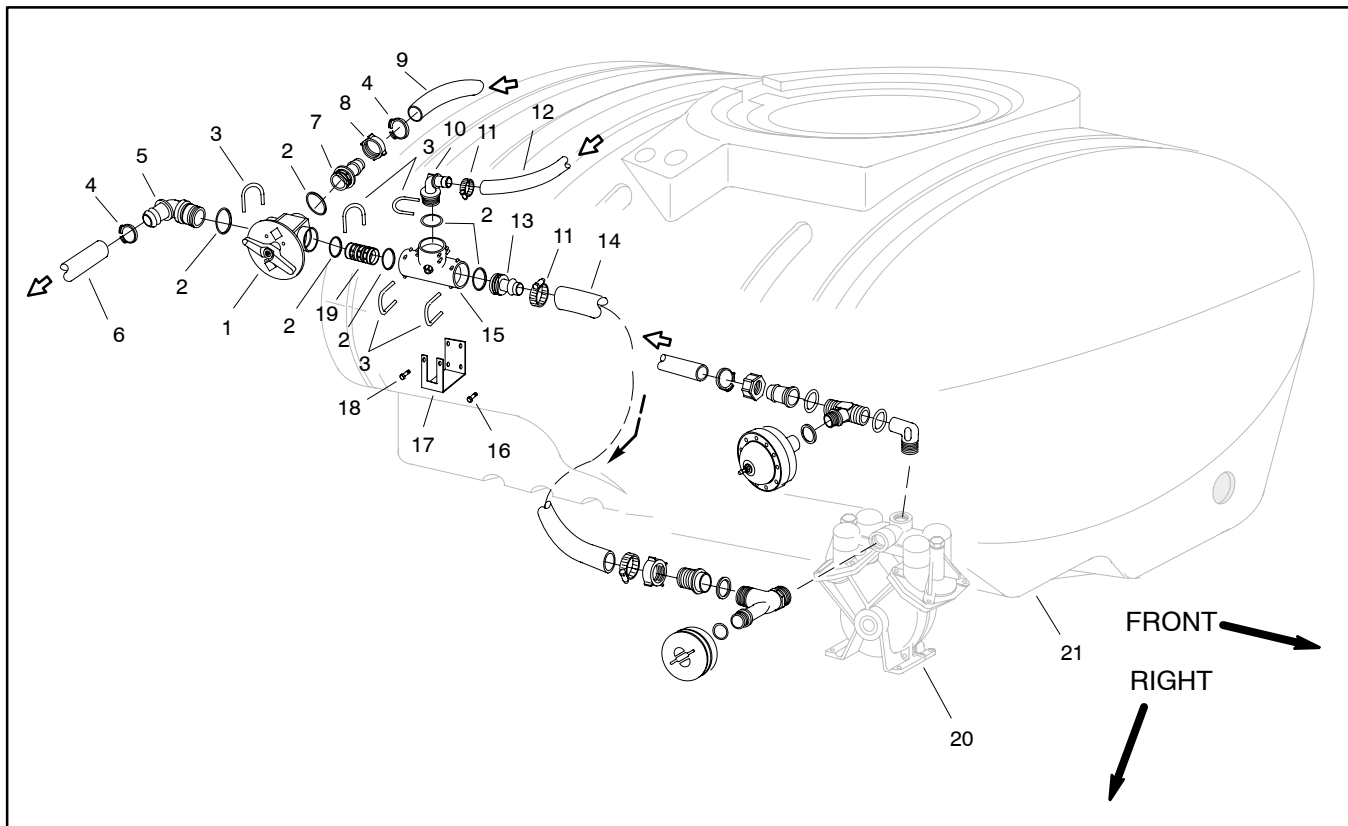

Figure 13
Removal (Fig. 13)
3. Remove agitation control valve using Figures 13 and 14 as guides.
Installation (Fig. 13)
2. Install agitation valve using Figures 13 and 14 as guides.